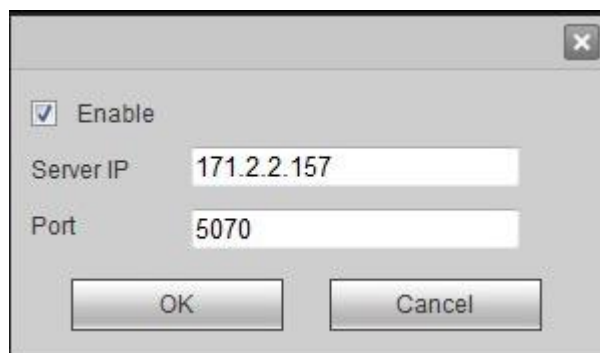

Figure 4-108
Step 1 Click “Add”. The system pops up Figure 4-108.